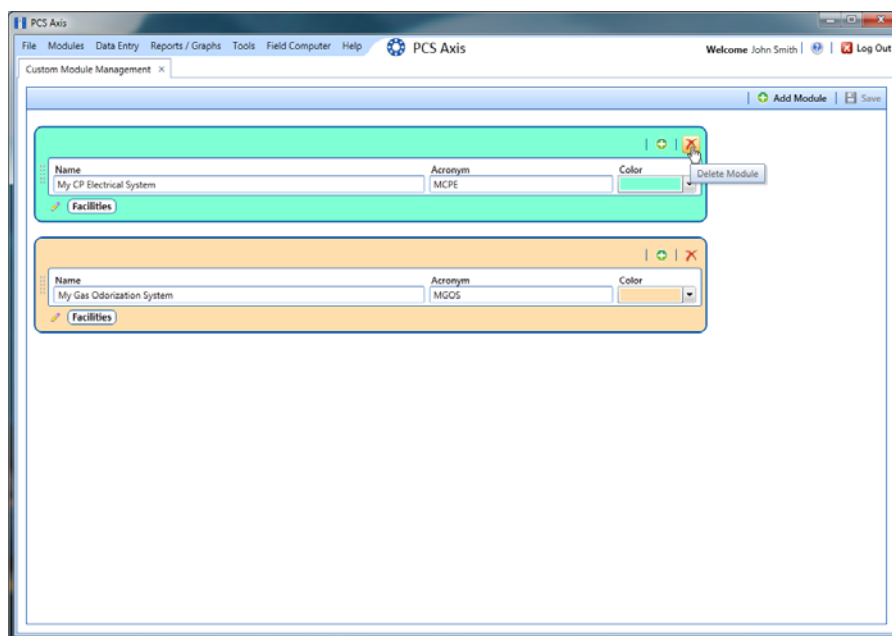

Figure 2-50. Custom Module Management
- 3 Click the  delete button for the user defined module you want to delete (Figure 2-50).